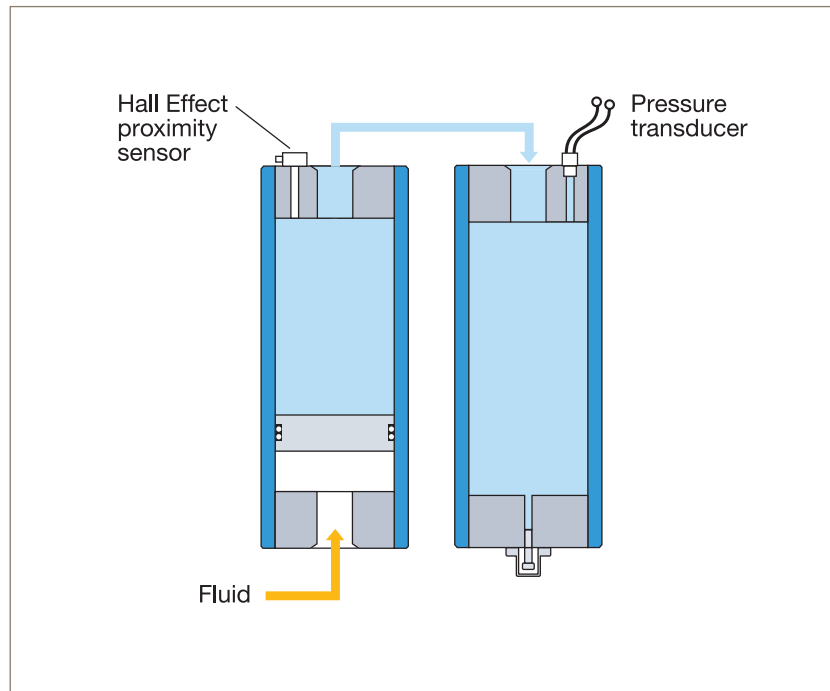

Fig. 14b Hall Effect sensor registers proximity of piston to end cap
Several methods can be used to monitor the precharge pressure of Parker's piston accumulators. Note that, in **Fig. 14b**, the flat piston must be used to enable the sensor to register its position.
- **In applications where an accumulator is coupled to a gas bottle: A Hall Effect proximity sensor can be installed in the accumulator gas end cap (Fig. 14b) to detect when the piston comes within .050 inch of the cap. This system would provide a warning when precharge pressure has dropped and remedial action should be taken.**